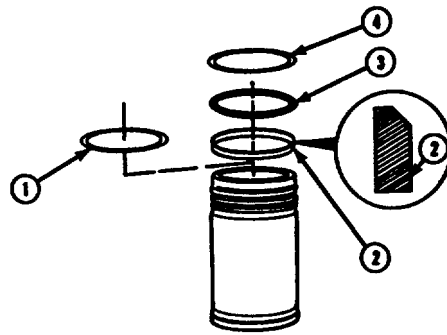

FIGURE 4-89. Cylinder Liner.
- (3) Install shims (1, FIG. 4-89), if required.
- (4) Lubricate packing ring bore in cylinder block.
- (5) Install plain seal (2) with beveled edge as shown in FIG. 4-89.